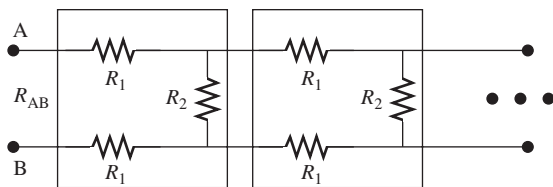

FIGURE P3.14 Circuit for Problem 3.14.
- 3.14 (H) Find the resistance seen through the terminals A and B (R_{AB}) in Figure P3.14. The circuit in the box repeats infinitely.